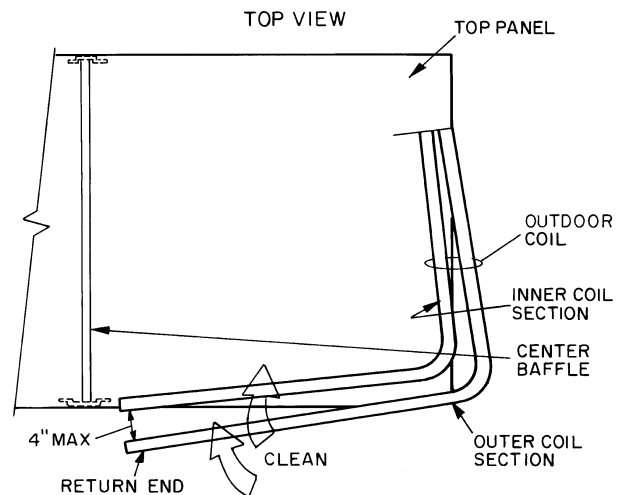

Fig. 41 — Separating Coil Sections
4. Remove device holding coil sections together at return end of outdoor coil. Carefully separate the outer coil section 3 to 4 in. from the inner coil section. See Fig. 41.